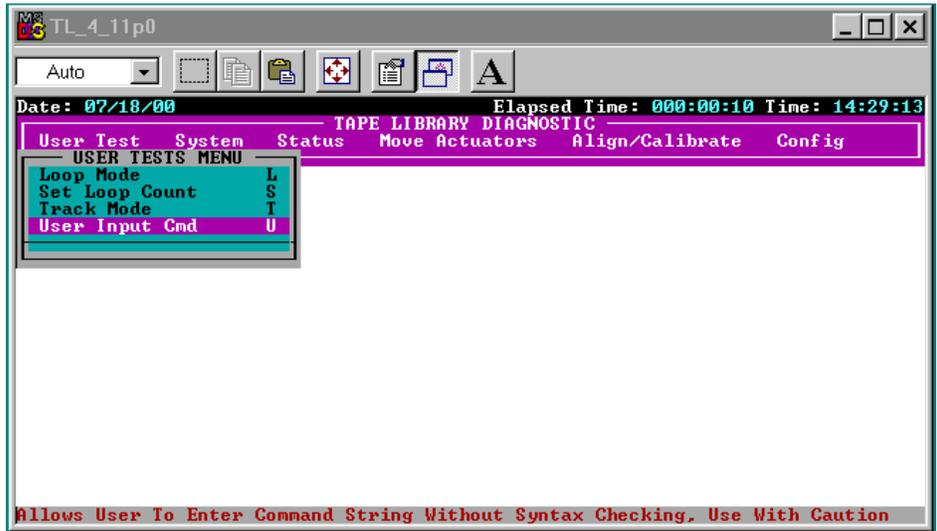

Figure 3-9. User Test menu
3. From the User Test Menu, select User Input Cmnd (see Figure 3-9).